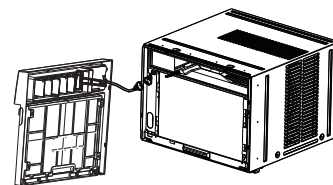

Fig.4
6. Disconnect the connector plug of the display panel from the unit and place front panel to one side(see Fig.4).